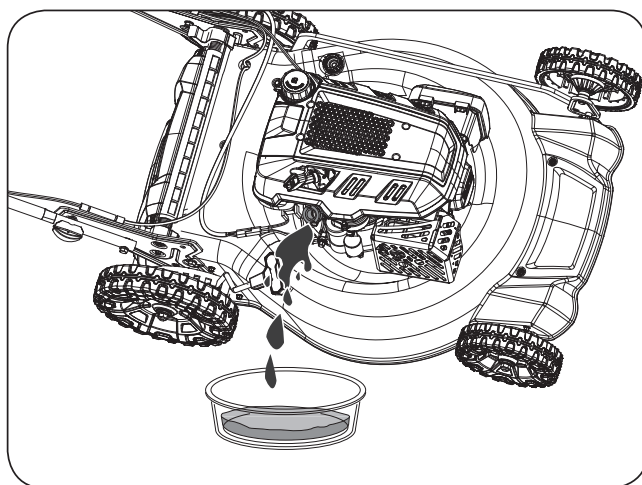

Figure 25
4. Tip the machine onto its side (so that the air filter is up) to drain the used oil from the oil-fill tube. (See **Figure 25**)